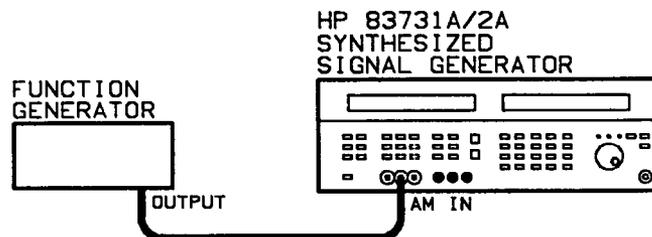
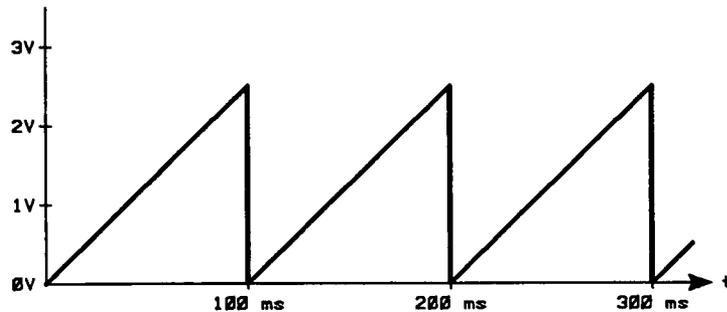

Figure 3-2. Log AM Equipment Setup
Figure 3-3. Example Sawtooth Waveform
1. Connect the equipment as shown in Figure 3-2:
For every +1 volt at the AM IN connector, The RF output will be attenuated by 10 dB. For example, the waveform in Figure 3-3 applied to the AM IN connector will cause the RF output to sweep linearly from -5 dBm to -30 dBm every 100 ms.
To program the Synthesizer to generate the power sweep explained above, connect the equipment as shown in Figure 3-2. Set the function generator to generate the sawtooth waveform shown in Figure 3-3, and then run the following program.